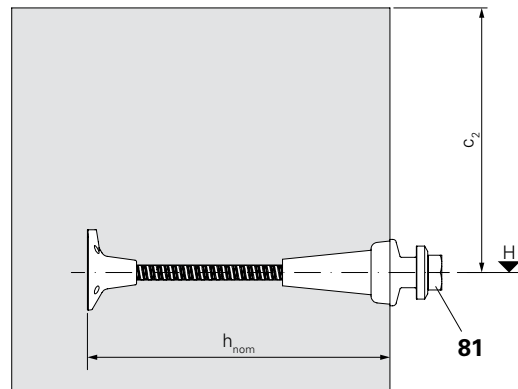

Fig. 03
(Fig. 03)
- $c_2 = 350$ mm - standard distance to the concreting joint if not specified in the plan. (Fig. 03)